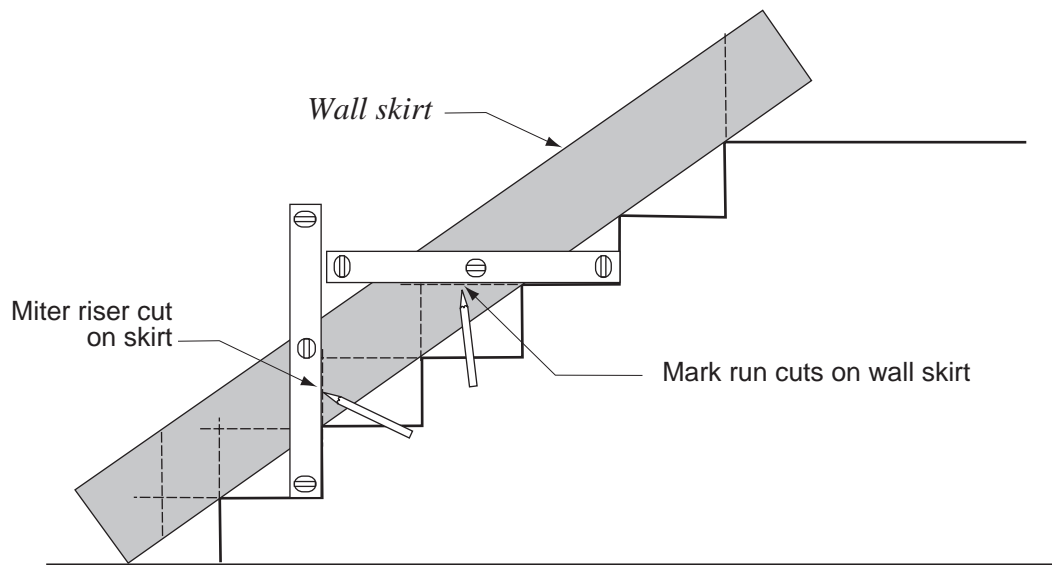

Fig. 2-7 *Measuring and cutting the wall skirt.*
2. Using a two-foot level, scribe a line plumb with each riser. Please note Fig. 2-7 here.